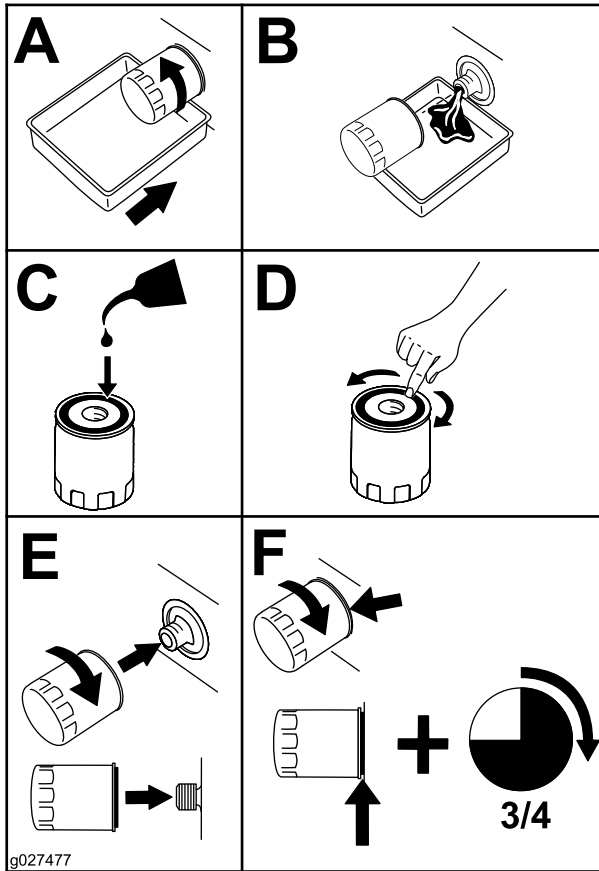

Figure 43
5. Change the engine-oil filter (Figure 43).